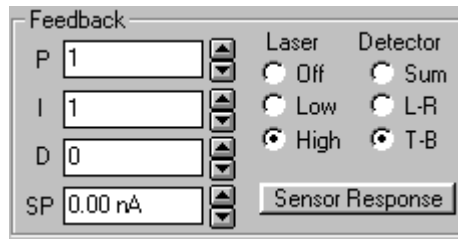

Figure 3.15
- If after repeated attempts to align the laser signal, you do not obtain an appropriate response, the probe you are using may be damaged or out of alignment. Turn the laser off (using the radio button on the **Feedback** panel shown in the Figure 3.15); install a new probe, and start again from the beginning of the procedure on page 81.